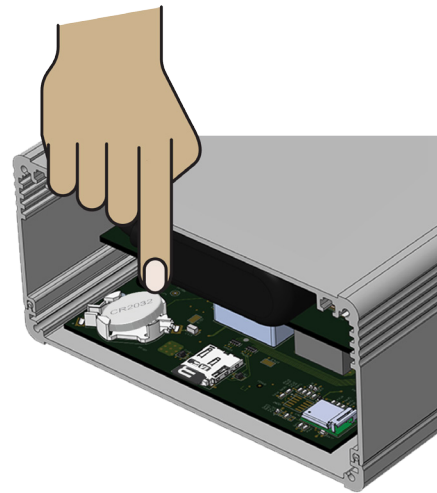

Figure 23: Insert new coin battery
- b. Insert a new battery at an angle (see Figure 23). Push down on the top of the battery until it snaps in place. The battery does not snap in place if it is installed incorrectly.